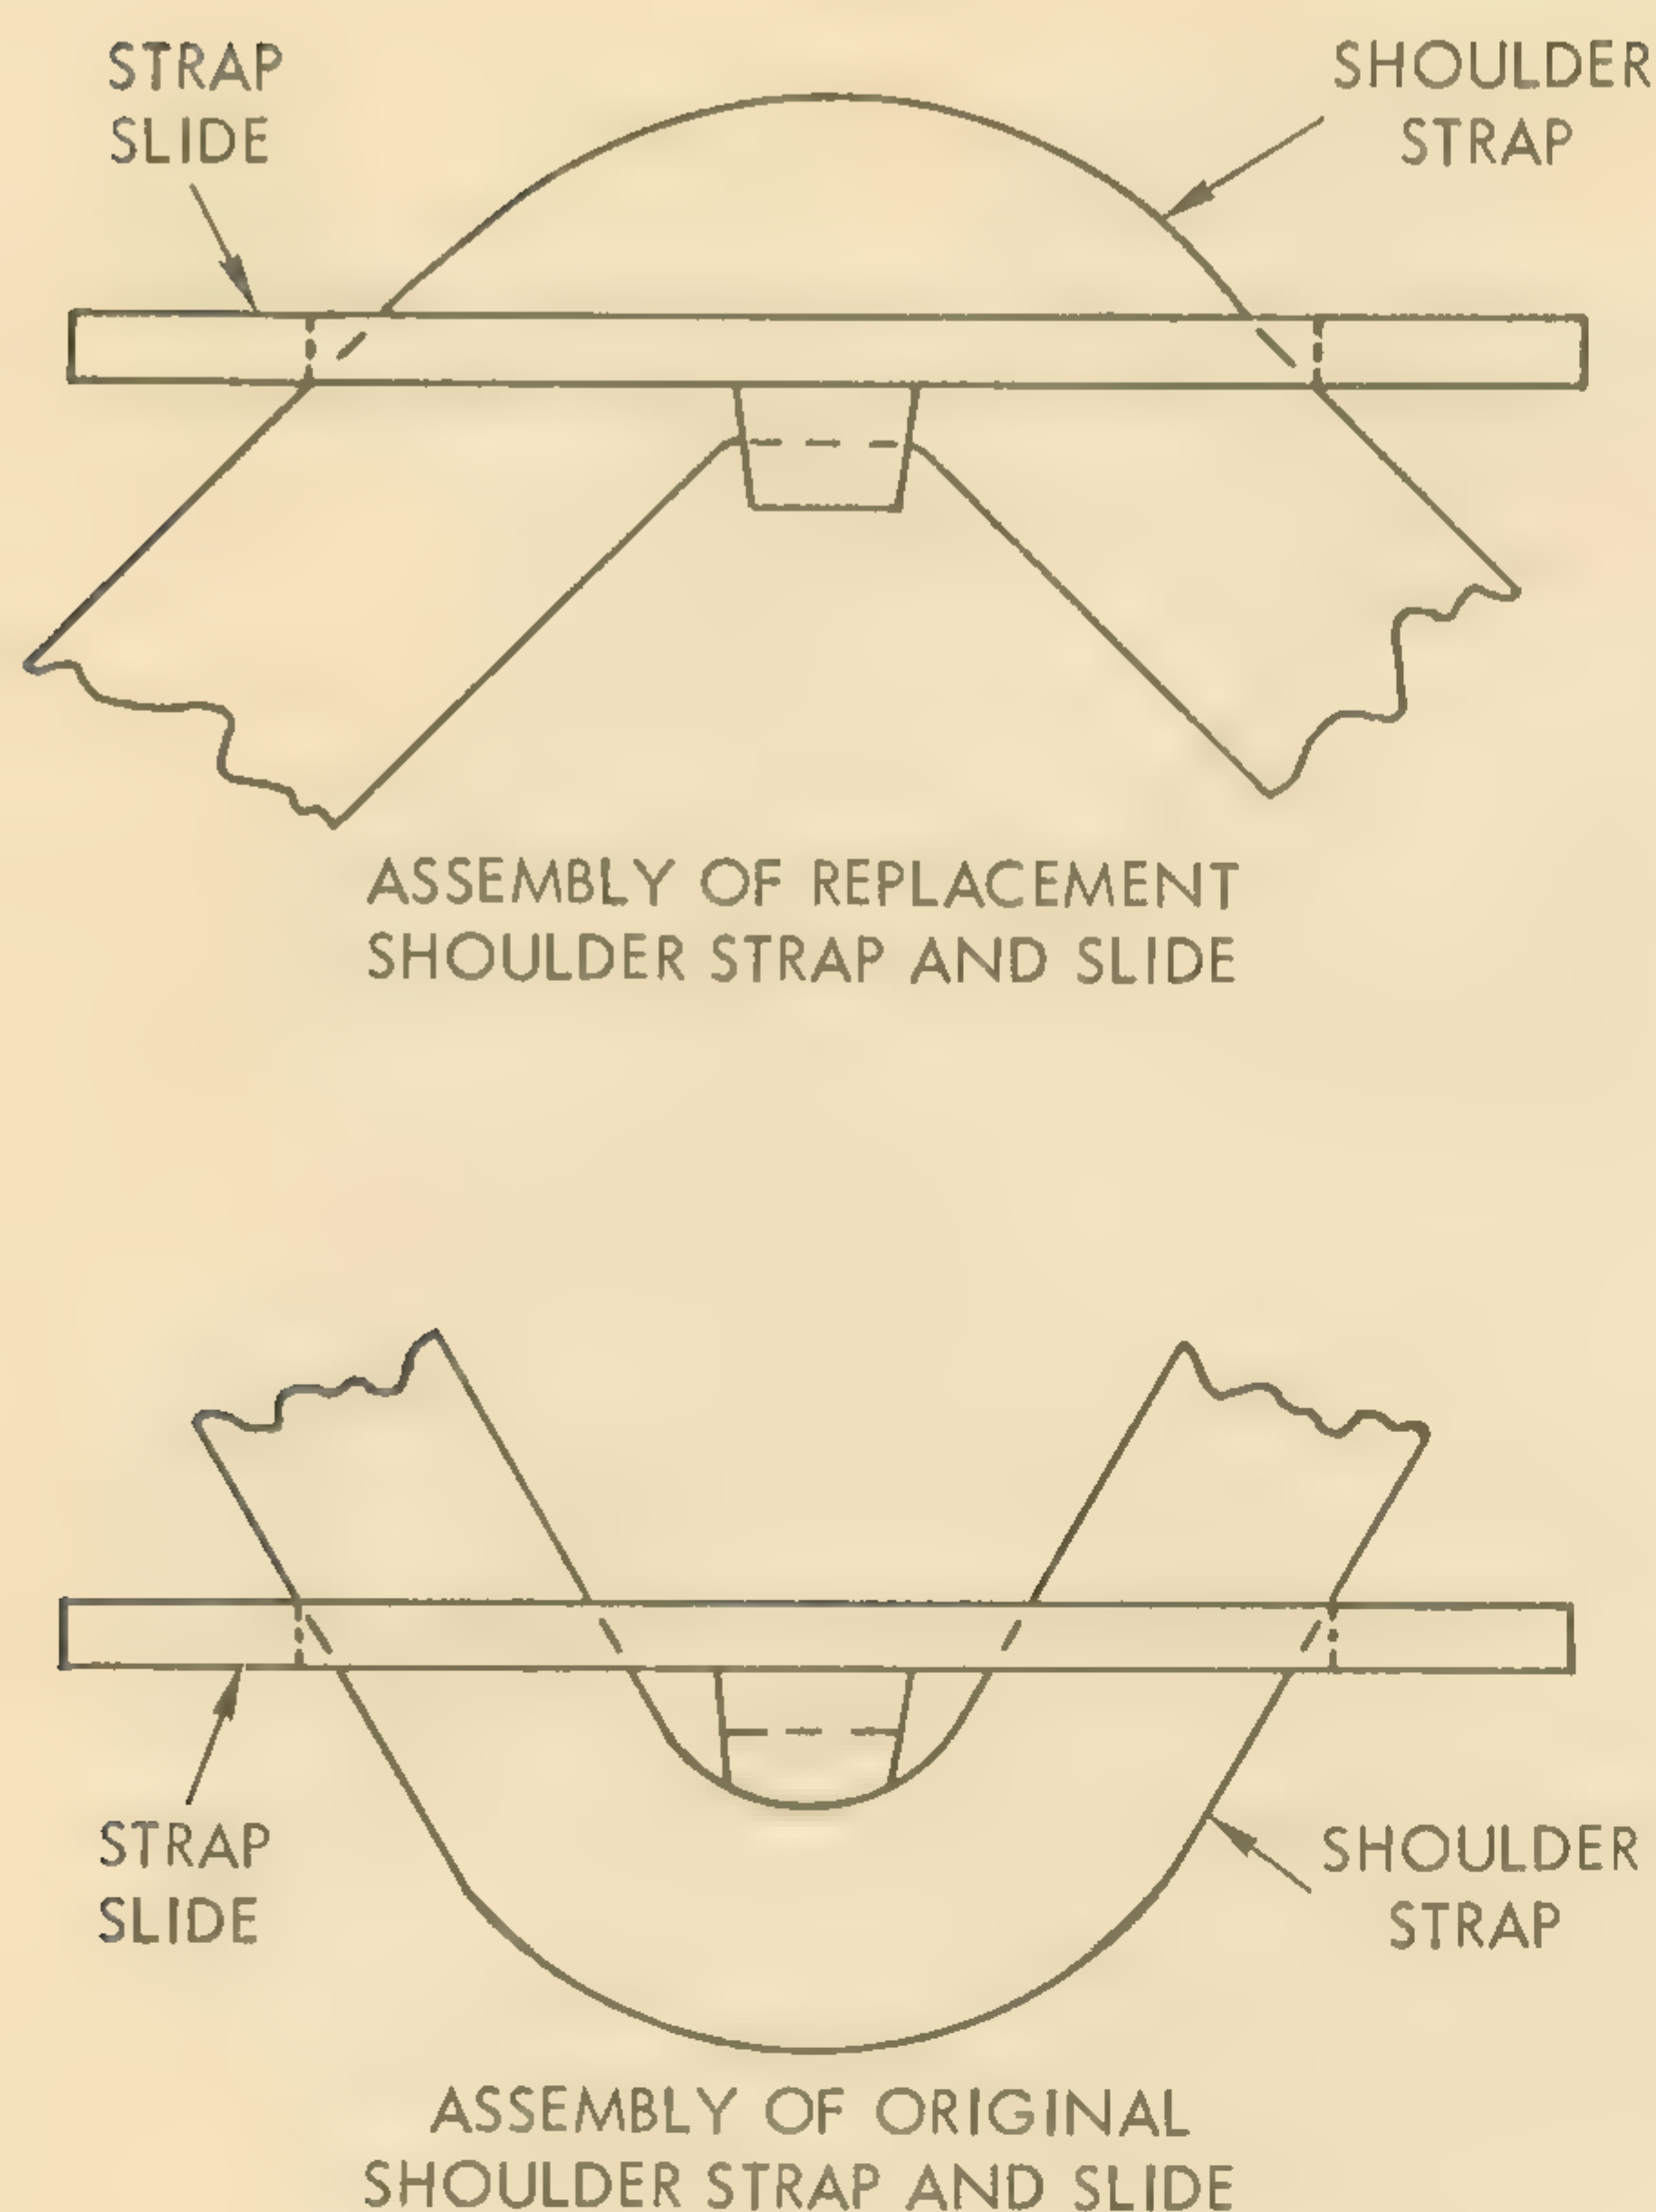

FIGURE 9. METHOD OF INSTALLING STRAP SLIDES ON SHOULDER STRAPS
c. If shoulder strap (3, figure 5) is replaced, the replacement part will be found to have a smaller diameter than the original to facilitate installation. Assemble strap slides on replacement shoulder strap as shown in figure 9 to be certain that strap does not slip in slide.
Refer to figures 9, 10, and 11 of the PARTS LIST and disassemble the power pack in the order of the index numbers. Note the following special instructions.